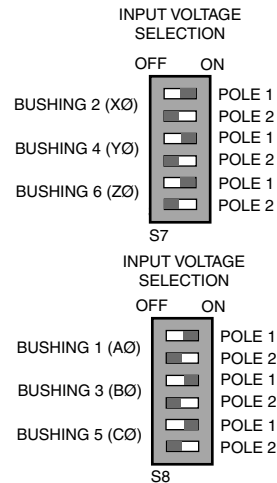

Figure 19.
7. Configure the RIF board as shown in Figure 19.